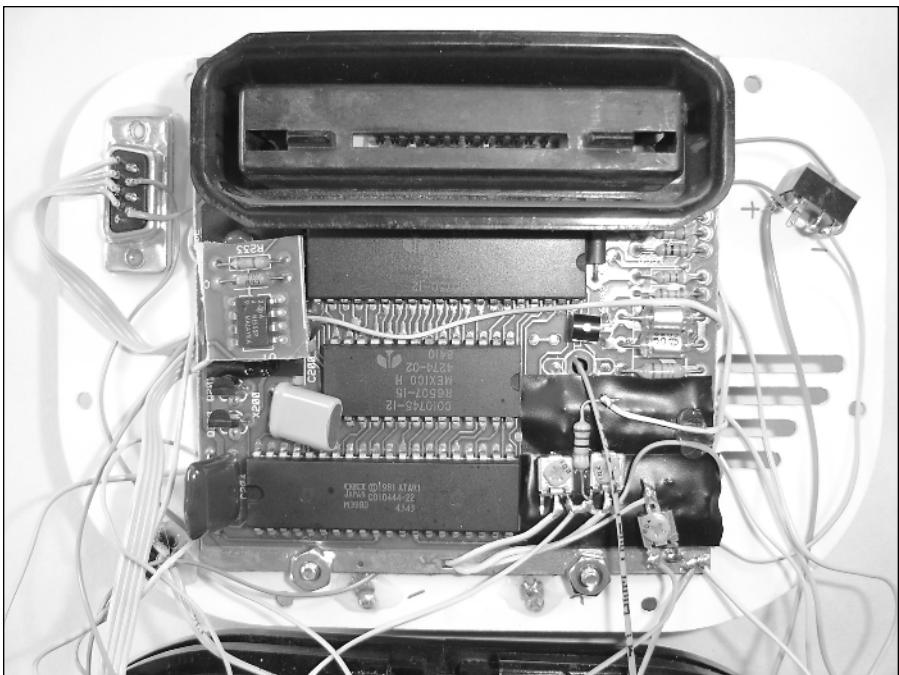

FIGURE 17-15: The completed rear half of the unit.
3. With the Player 2 joystick port attached, you can slide the Atari board over the two 3/8"-long size screws and use two size-6 nuts on them to secure the board to the rear plate. The result should look like Figure 17-15.